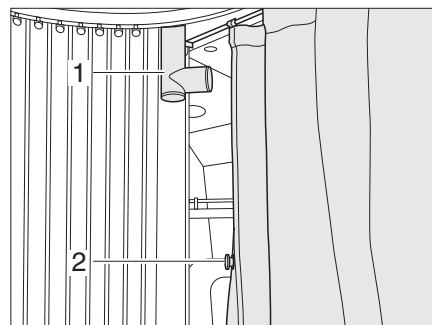

Fig. 99 Fastening the shower curtain
- Take out the shower handset and insert it into the holder (Fig. 99,1).
- Close the shower curtain leading to the toilet with the magnet (Fig. 99,2).